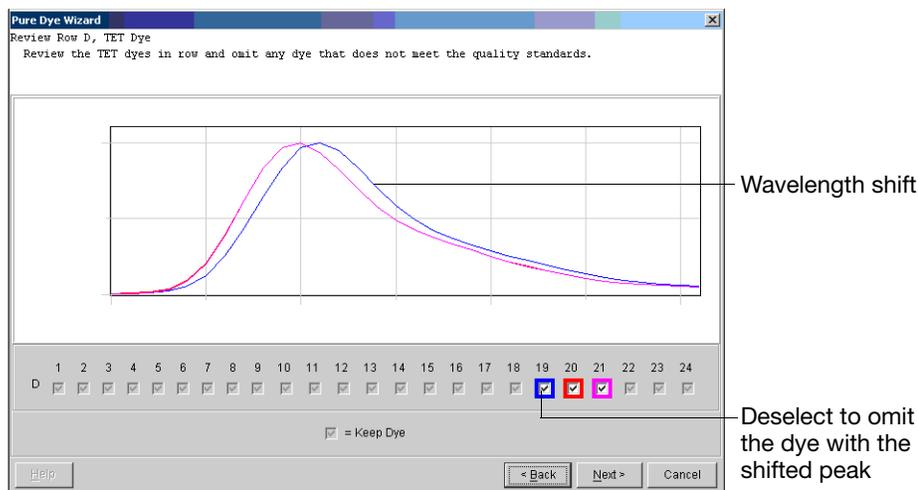

Figure 2 Example of spectra from a pure dye plate
- c. As each screen is displayed, inspect the spectra for shifts in peak location (Figure 2). Omit any outlying peaks by deselecting the check box of the associated well.